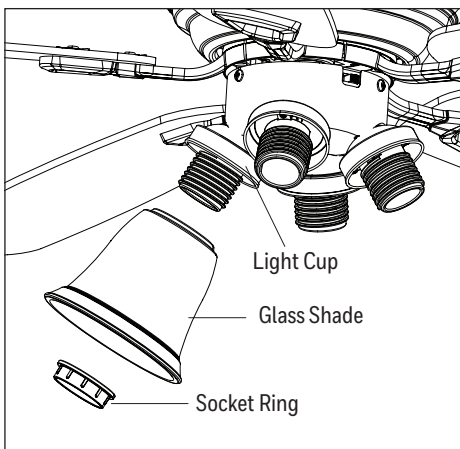

Figure 2.13
13. Lift the glass shades into the light cup. Secure the glass by reinstalling the socket rings (Figure 2.13).